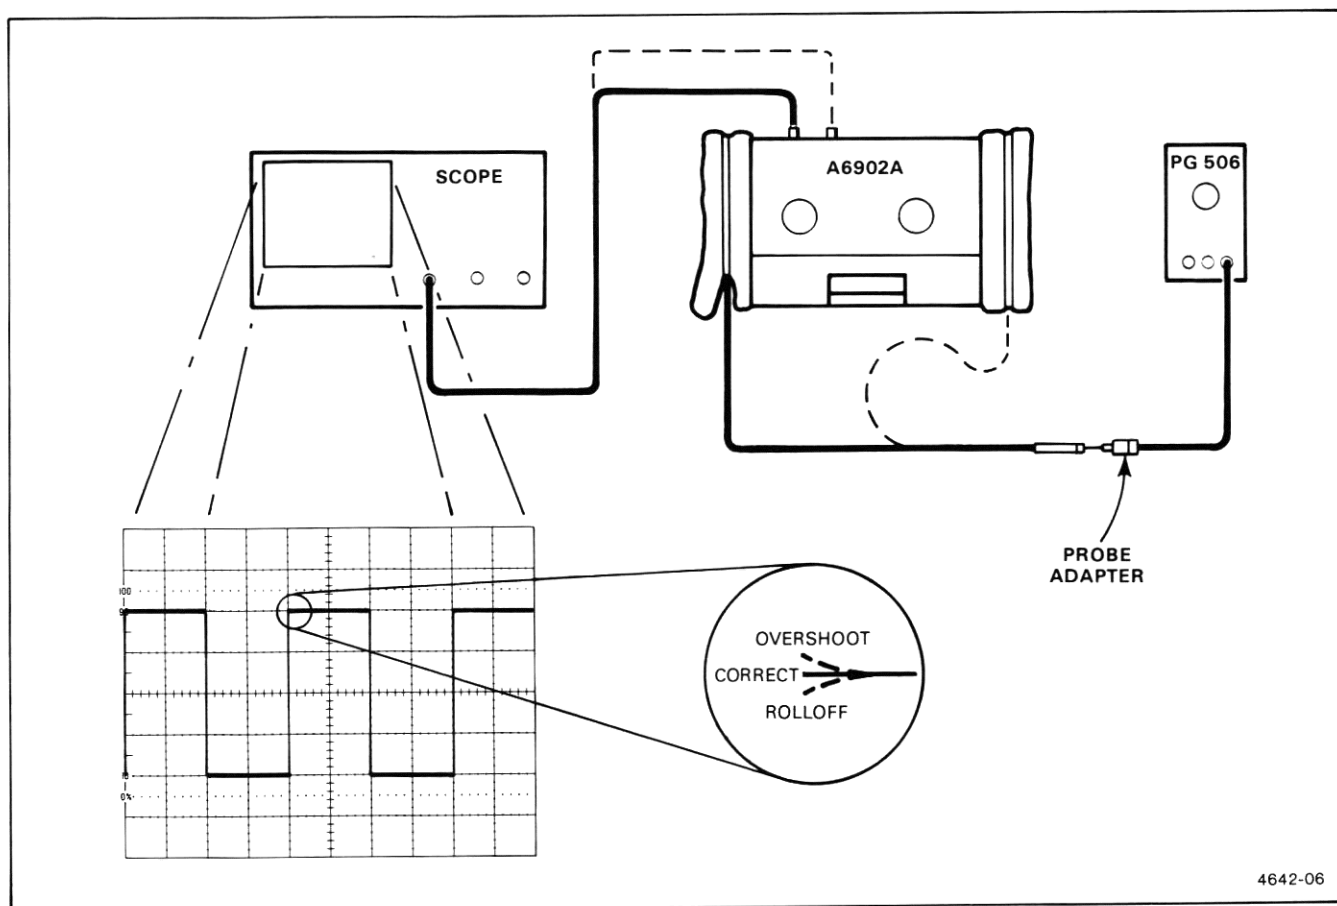

Figure 4-1. Gain and probe compensation test setup.
c. Connect the A6902A Channel 1 output BNC connector to the oscilloscope BNC connector through a 50- Ω BNC cable. Connect the Calibration Generator Standard Amplitude output to the A6902A Channel 1 input through the 500-V Probe and probe adapter (refer to Figure 4-1).
h. CHECK - for a flat-top waveform display within ± 0.25 minor divisions, (adjustment, if necessary, is described in the "Operators" section of this manual). Refer to Figure 4-1 test waveforms.